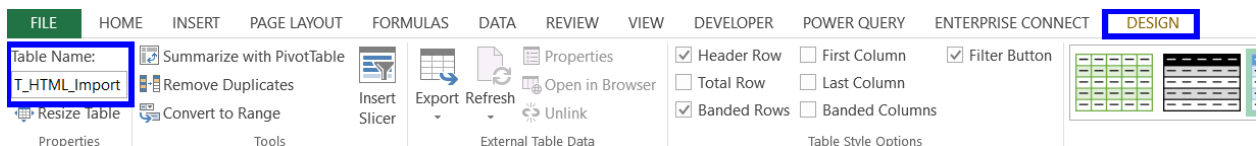

Figure 12: Table Renaming
5. Rename the table on the Input sheet from DEFAULT TABLE NAME to T\_HTML\_Import to link the information to the ETL sheet as shown in Figure 12.